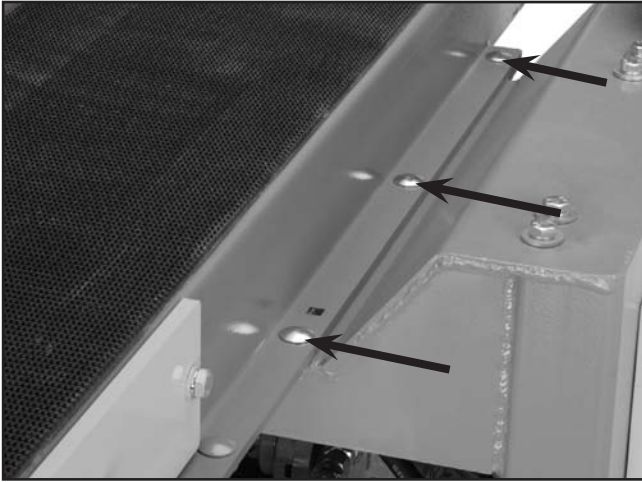

Figure 9. Carriage bolt placement.
- Line up the holes and insert the carriage bolts as shown in **Figure 9**.